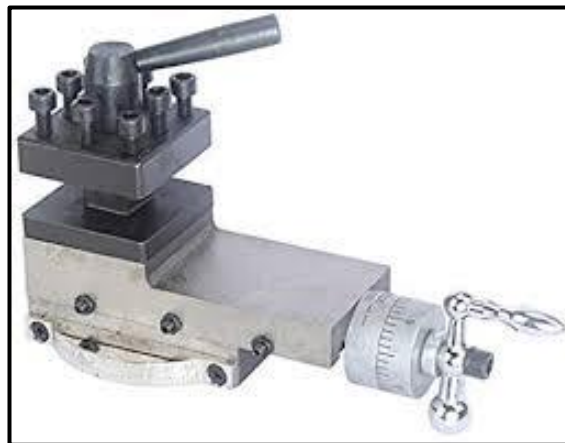

FIGURE 4.1
- 4.1 Identify the lathe component in FIGURE 4.1 below.